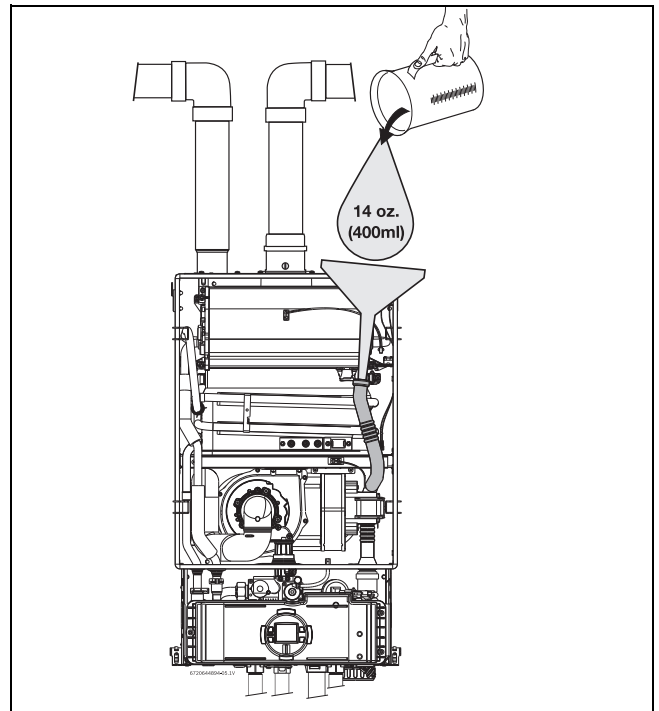

Fig. 36 Filling the condensate trap after installation
- ▶ Fill the condensate trap by pouring approx. 14 oz. (400ml) of water into the top of the drain tube. To avoid damage to the appliance use a funnel in this operation, see fig. 36, page 29.